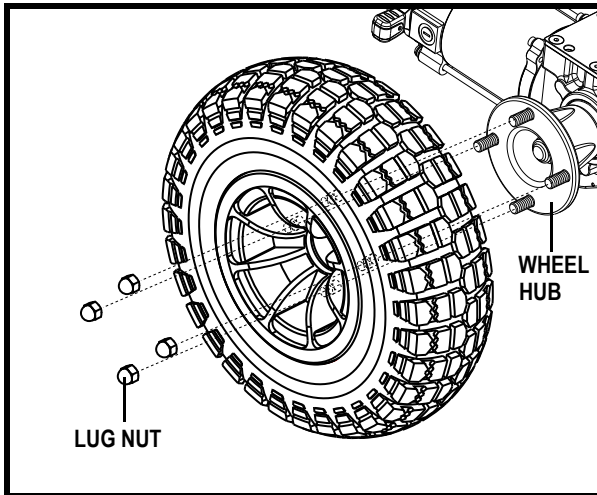

Figure 18. Quantum/Jazzy 1450 Series Drive Wheel
4. Remove the four (4) lug nuts from the wheel hub. **See figure 18.**